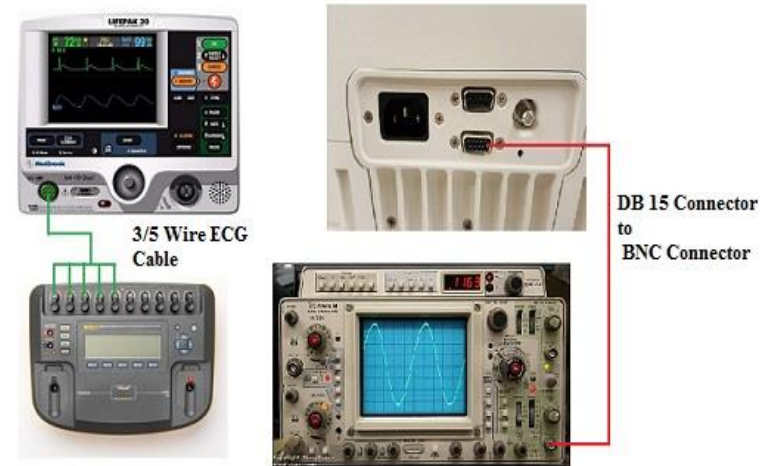

Figure 1.14: Analog ECG Output Test Setup
1. Connect the device to the Impulse 7000DP and oscilloscope as shown in Figure 1.14.